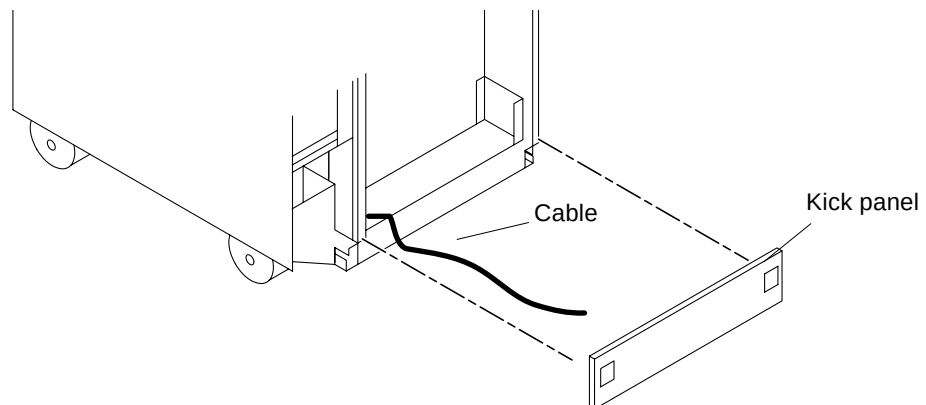
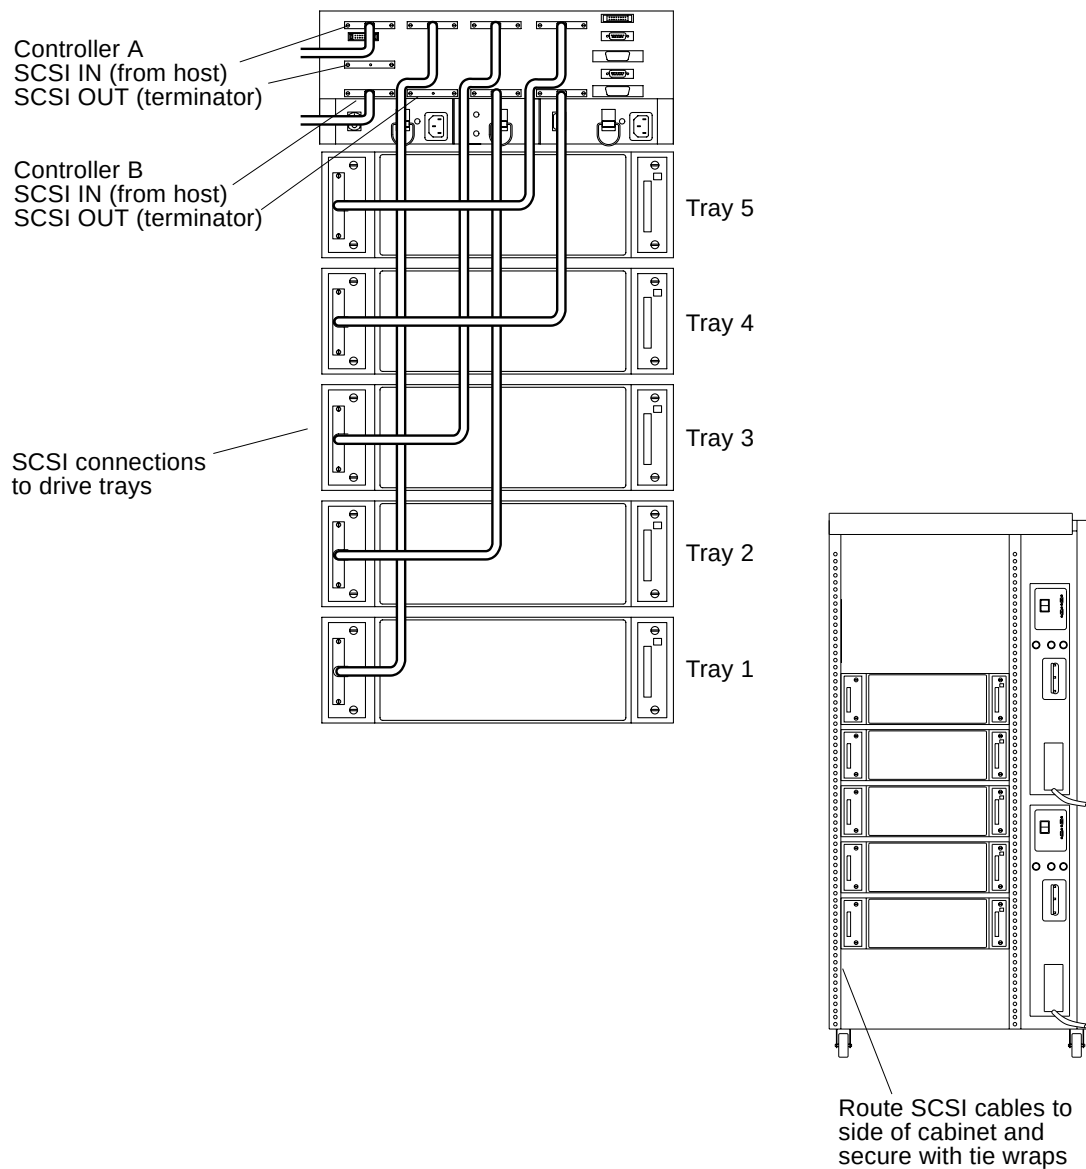

FIGURE 1-17 Routing the Host SCSI Cable Behind the Kick Panel
FIGURE 1-18 Connecting SCSI Cables to the Controllers and Drive Trays
1. Install 16-bit, differential terminators to both host SCSI OUT connectors on the back of the controller module (FIGURE 1-18).
Route both host SCSI bus cables from the bottom of the cabinet (FIGURE 1-17) and attach them to the HOST IN connectors on the back panel (FIGURE 1-18).
Connect SCSI cables from the drive tray connectors to the corresponding back panel connector shown in FIGURE 1-18. Make sure that you tighten the cable connector screws securely.